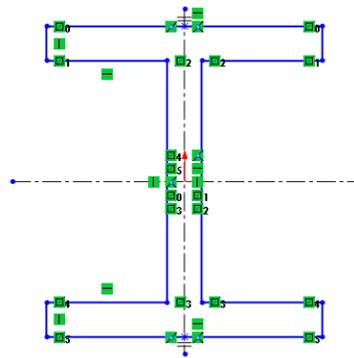

Figure 3-65 Final sketch for Tutorial 1
- Modify the sketch by dragging the sketched entities, refer to Figure 3-65.
6. Release the left mouse button when the **X Coordinate** spinner shows the value 10. The final sketch after modifying the sketched entities by dragging them is shown in Figure 3-65.
It is evident from Figure 3-65, the sketch consists of the outer loop and inner cavities. It is recommended that you create the outer loop of the sketch first and then the inner cavities.